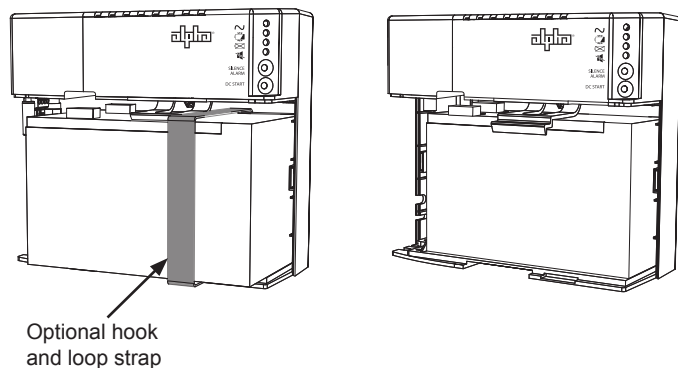

Fig. 2-6, FlexPoint Battery Securing Options
4. Install the battery into the compartment ensuring the battery retaining clip secures the battery for batteries up to 8Ah. When applicable, use the hook and loop strap to retain the battery (see Fig. 2-6). For 5 to 8Ah batteries the hook and loop strap is optional.